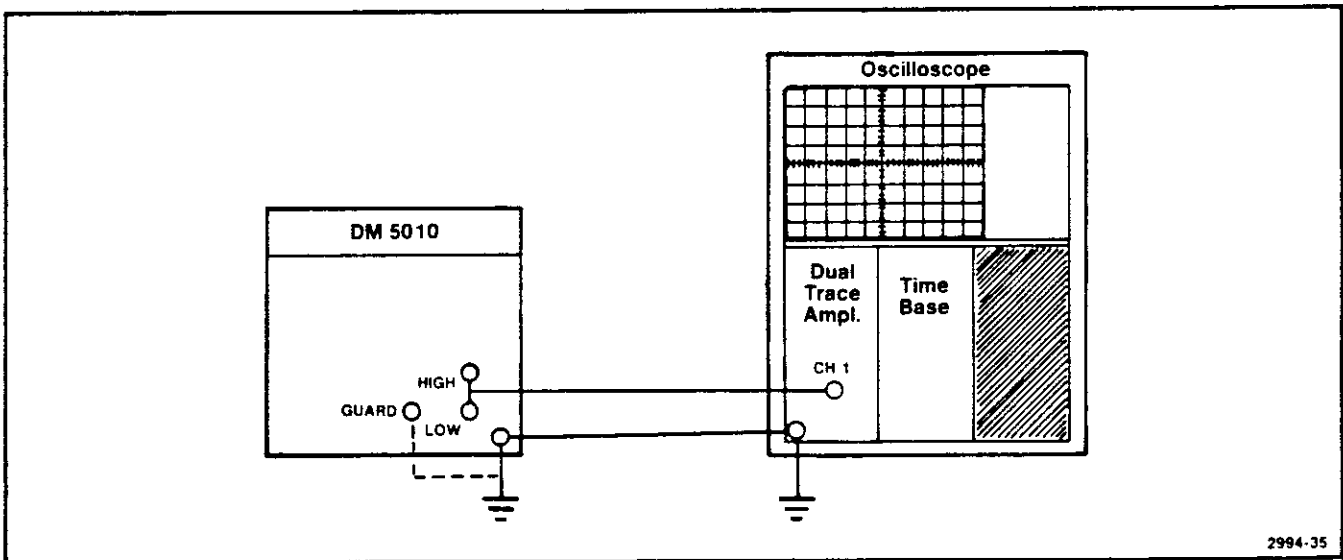

Fig. 7-5. Setup for C1301 and C1404 adjustment.
a. Connect the DM 5010 HIGH input connector to the LOW connector. Connect the oscilloscope as shown in Fig. 7-5. Apply power to the power module.